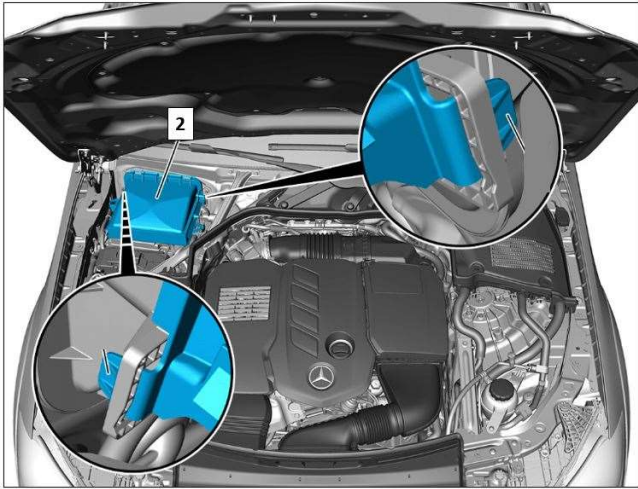

Figure 3
1. Remove dust filter with air duct segment (**Figure 3, 2**).